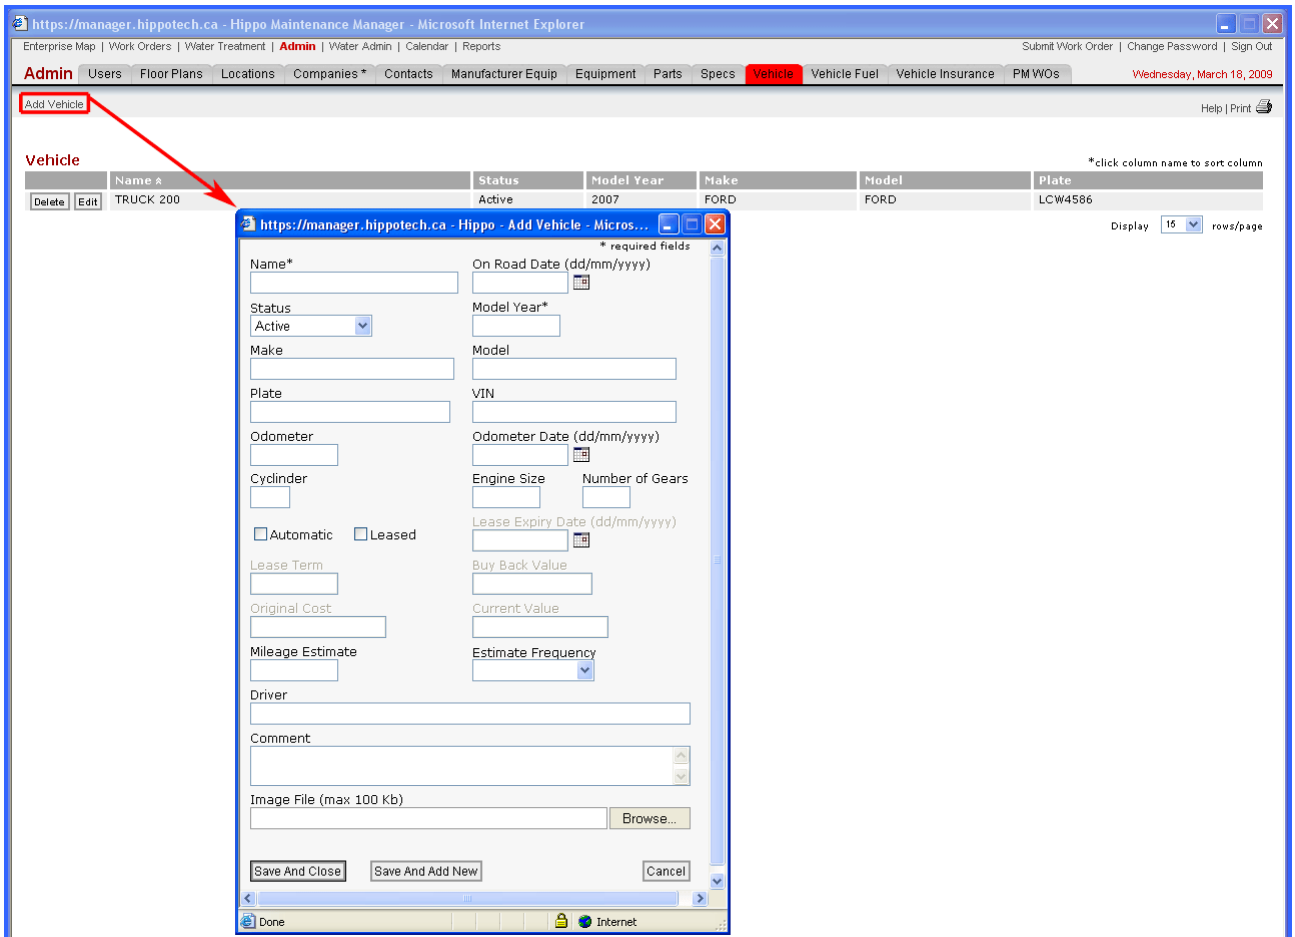

Figure 47: Add Vehicle
2. Click **Add Vehicle** sub-menu item to display the Add Vehicle window (See Figure 47).